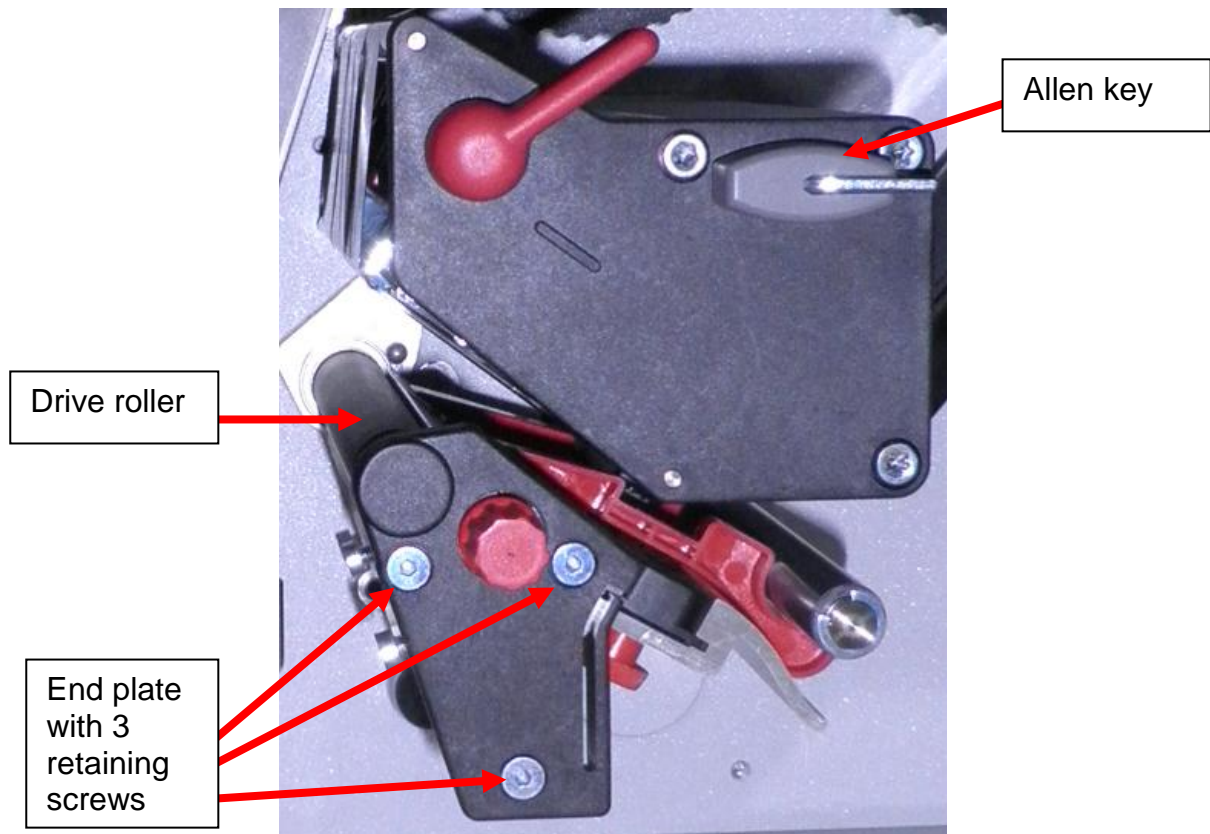

Figure 2 – End plate for TE3124/3112 printers
- 2.2. Using the Allen key provided with the printer, remove the three screws holding in the end plate, as shown in Figure 2.